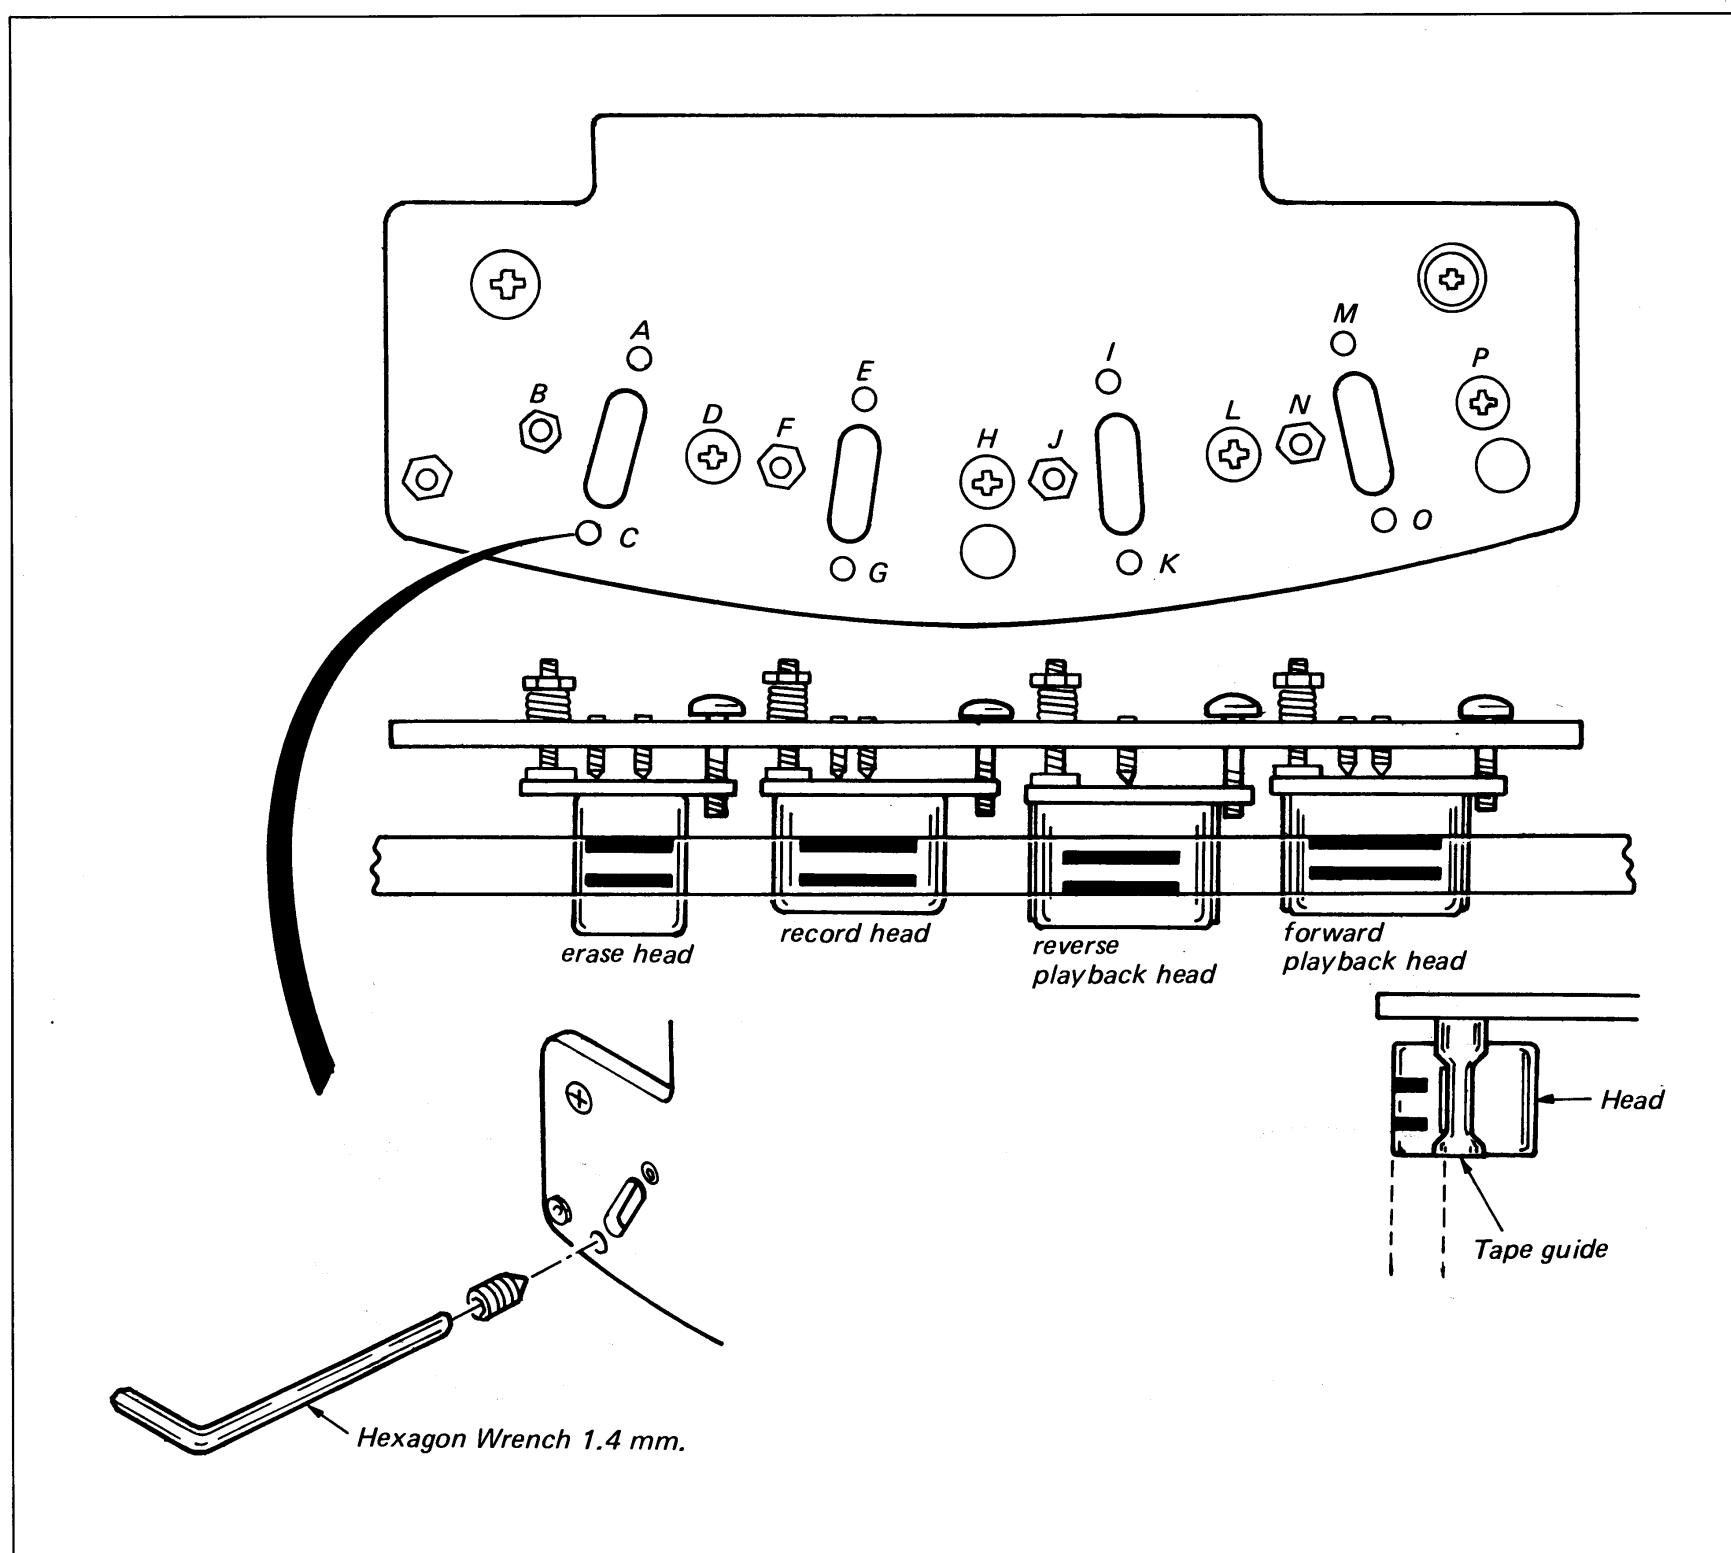

Fig. 4-4
4-7-1. Preliminary Adjustment (See Fig. 4-4)
Run a tape in the forward direction at 9.5 cm/sec (3 3/4 ips), adjust the screws as shown in Fig. 4-4 for the followings.
(See Fig. 4-4)**
In the playback of 700 Hz, adjust M, O, P, of Fig. 4-4 for the maximum indication at the V. T. V. M.
In the playback of 15 kHz, adjust P of Fig. 4-4 for the maximum indication at the V. T. V. M.
1. Perform the adjustment as in "Forward Playback Head Adjustment". Adjust I, K, L, of Fig. 4-4 for tracking adjustment, and L of Fig. 4-4 for azimuth adjustment.
4-7-4. Recording Head Adjustment (See Fig. 4-4)
Adjust E, G, H, of Fig. 4-4 for the maximum indication at the V.T.V.M.
Change the output frequency to 15 kHz. Adjust H of Fig. 4-4 for the maximum indication at the V.T.V.M.
4-7-5. Erase Head Adjustment (See Fig. 4-4)
- 3) Adjust A, C, D, of Fig. 4-4 for the minimum indication at the V.T.V.M.